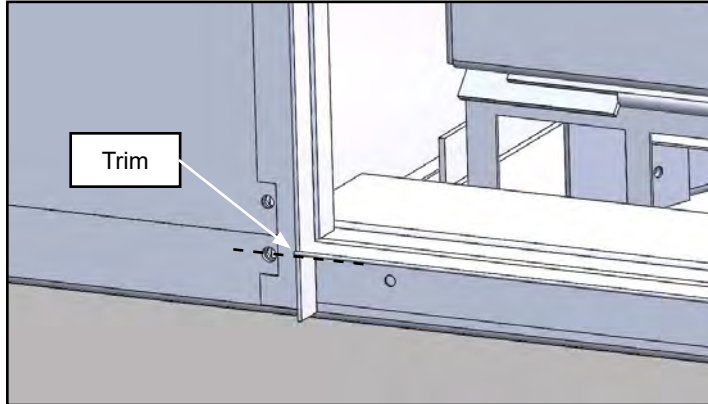

Figure 12.4.02:
Install the tile finishing strips using the (9) 1/8" rivets included. Never place combustible material over the face of the fireplace. See **Figure 12.4.02** for finishing details.